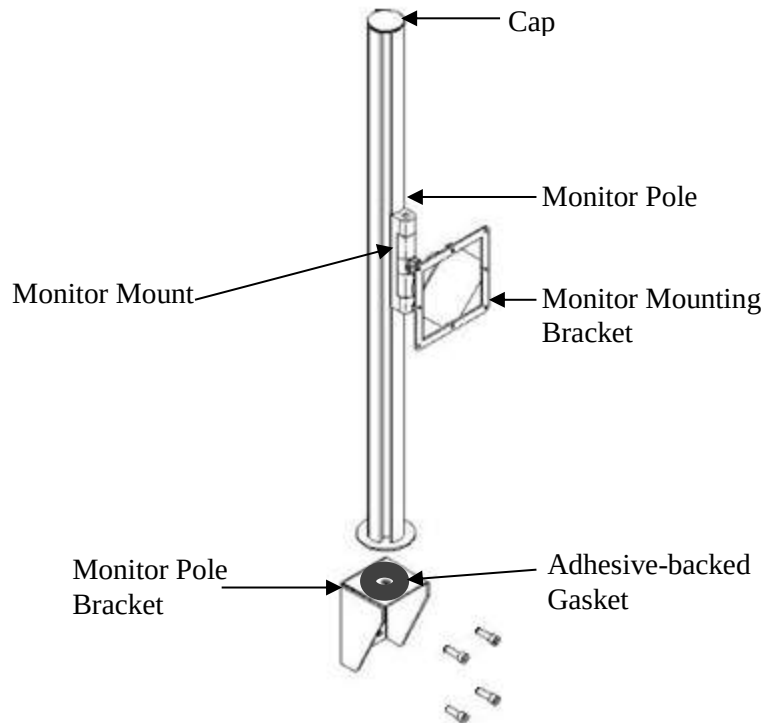

Figure 124. Monitor Support Post Assembly
5. Attach Monitor Mount to pole by sliding into one of four channels in the Monitor Pole. Ensure manufacturer's logo is readable and not upside-down. Refer to Figure 124.
10. Install pole manufacturer-supplied gasket: remove backing paper to expose adhesive and adhere to mounting bracket top-side as shown in Figure 124.